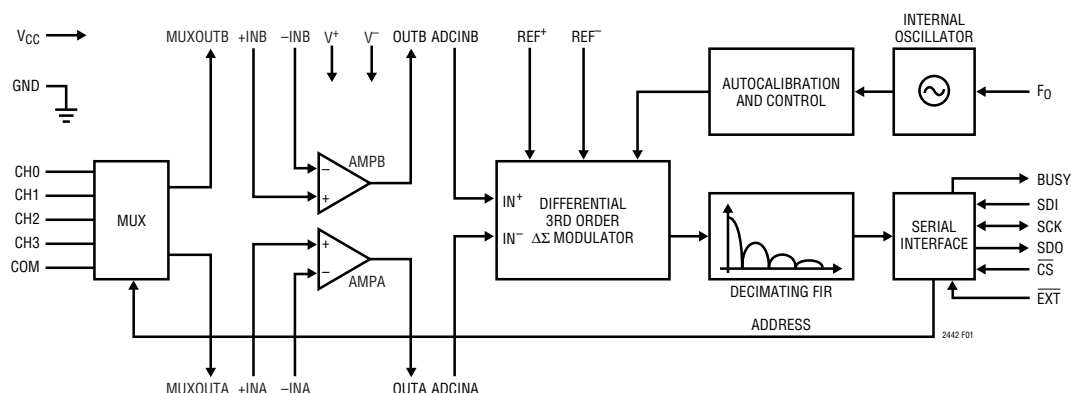
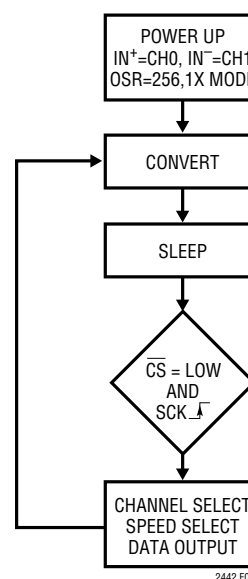

Figure 1. Functional Block Diagram
Figure 2. LTC2442 State Transition Diagram
The LTC2442 is a multi-channel, high speed, $\Delta\Sigma$ analog-to-digital converter with an easy to use 3- or 4-wire serial interface (see Figure 1). Its operation is made up of three states. The converter operating cycle begins with the conversion, followed by the sleep state and ends with the data output/input (see Figure 2). The 4-wire interface consists of serial data input (SDI), serial data output (SDO), serial clock (SCK) and chip select (CS). The interface, timing, operation cycle and data out format is compatible with Linear's entire family of $\Delta\Sigma$ converters.